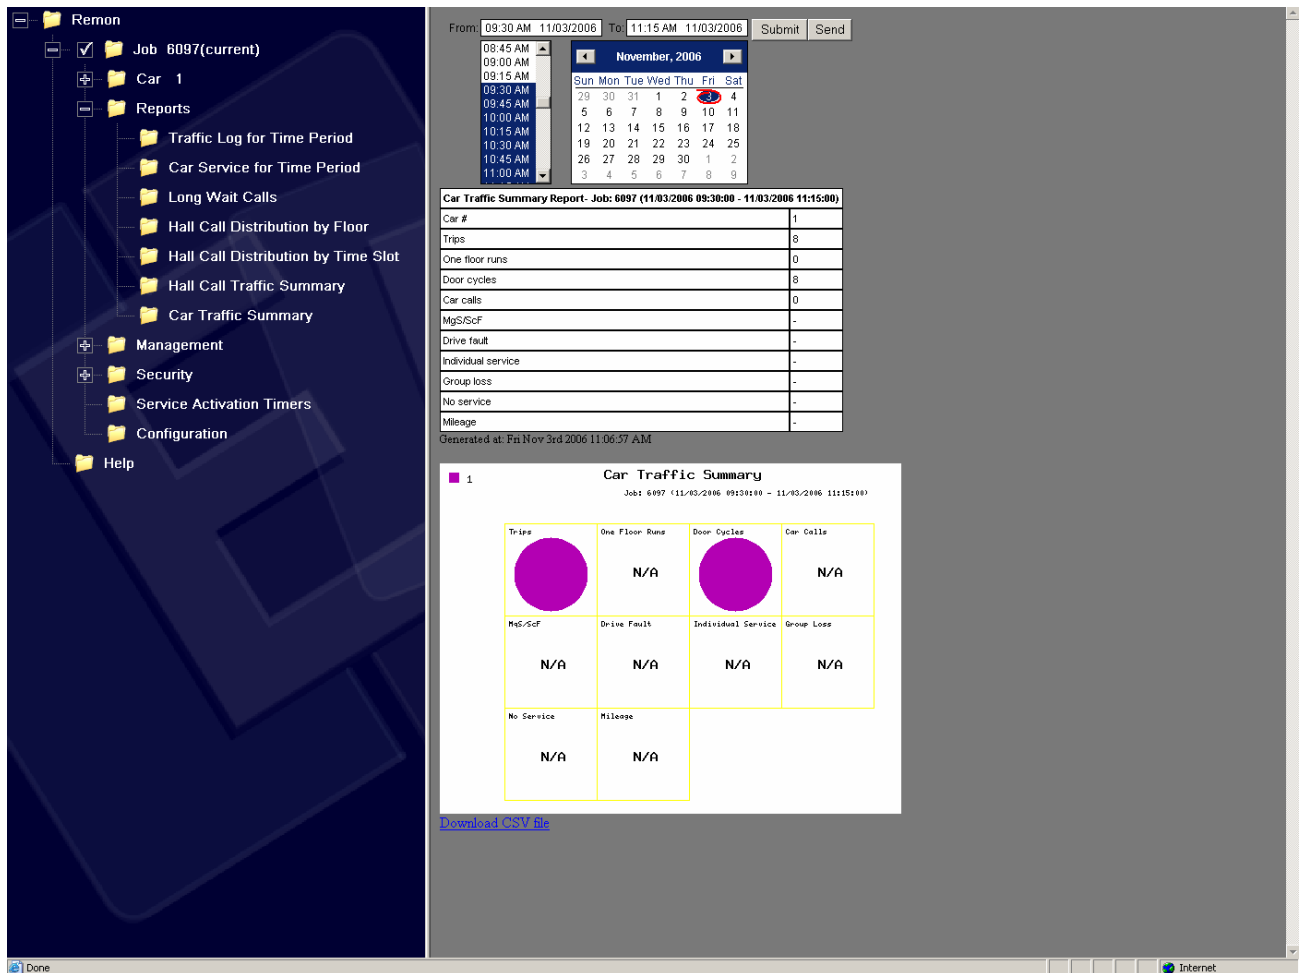

Figure 33. Car Traffic Summary Report Screen
- Click “Submit” button to display the report in the data display area as shown in Figure 33. After receiving the report the user can adjust time range and resubmit his request. The report is redisplayed with different data corresponding to new time range.